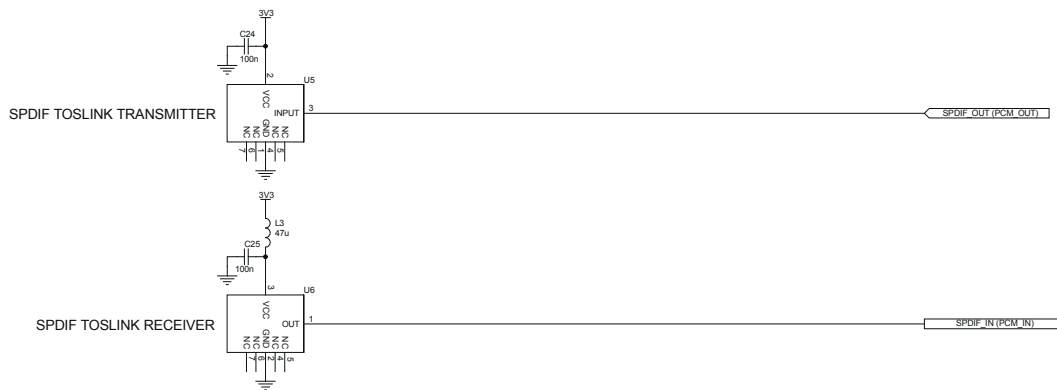

Figure 10.5: Example Circuit for SPDIF Interface (Optical)
- An optical link that uses Toslink optical components, see Figure 10.5.